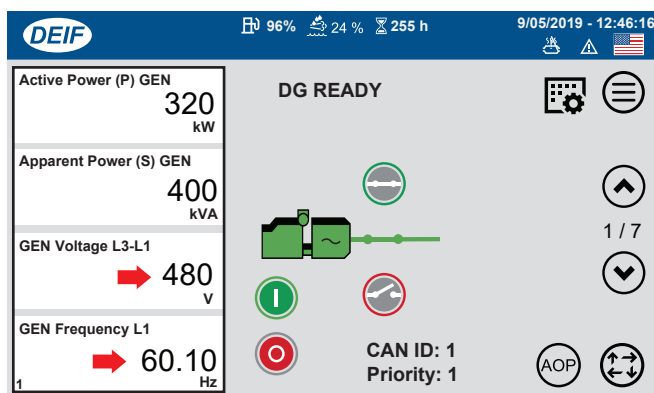

Figure 113. Voltage (V) and Frequency (Hz)
7. On the touch display (Figure 113), verify that the **voltage (V)** and **frequency (Hz)** match the expected output.